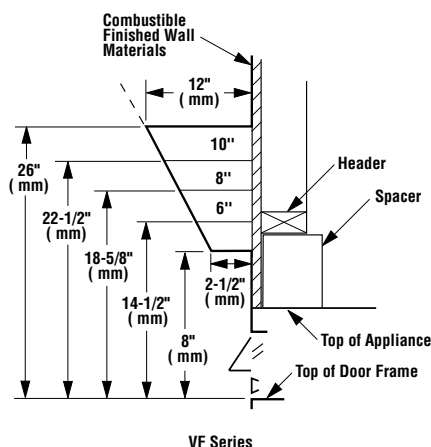

Figure 2
Ensure the minimum clearances shown in Figures 2 and 3 are maintained.
In order to install the appliance facing flush with the finished wall, position the framework to accommodate the thickness of the finished wall (Refer to Figures 2 and 3).
Step 9. Secure Heater – Bend the tabs down (*Figures 2 and 15*). Using two (2) screws securely tighten the appliance to the platform.